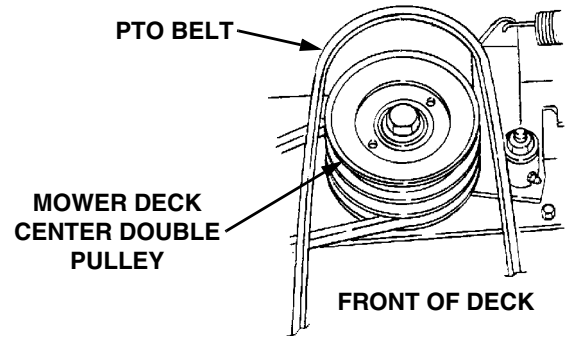

Figure 2-11
15. Working from the left/rear of the mower deck, install the rearward end of the PTO belt on the upper pulley of the deck center double-pulley (Refer to Figure 2-11). Ensure that the narrow side of the belt engages the groove of the upper pulley, and that there is no more than a 1/4 twist in the belt between the front pulleys and the double pulley.